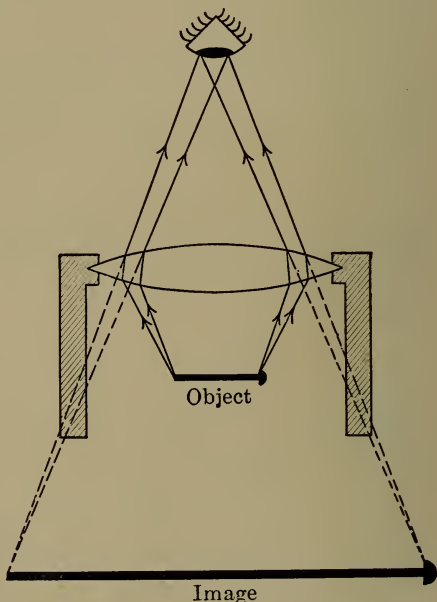

FIGURE 116.—A POCKET MAGNIFYING GLASS.
**149. The Magnifying Glass.** — Figure 116 shows a converging lens used as a magnifying glass. The lens is held at a